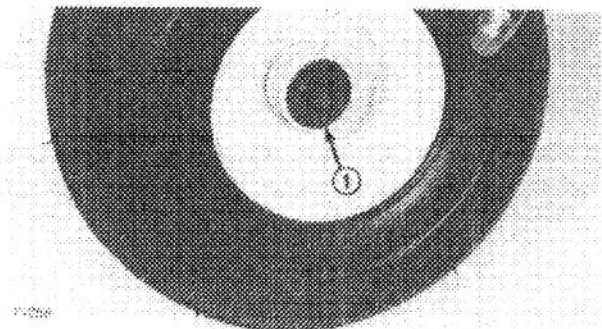

Figure 50
2. Remove dust cap from end of wheel spindle. Remove cotter pin, slotted nut, and washer, and slide wheel off spindle shaft. Pull seal out of wheel hub (Fig. 50).
5. Pack both bearings with grease. Install bearing into cup on inboard side of wheel hub. Lubricate inside of new lip seal and press it into the wheel hub (Fig. 50).